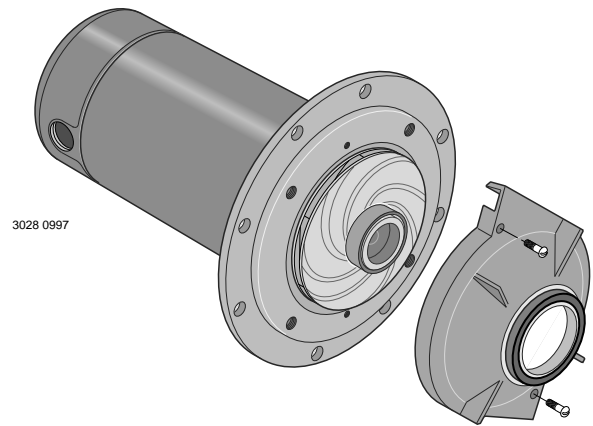

Figure 14 – Remove Diffuser
1. Remove screws fastening diffuser to seal plate; remove diffuser (see Figure 14). Exposed impeller can now be cleaned.